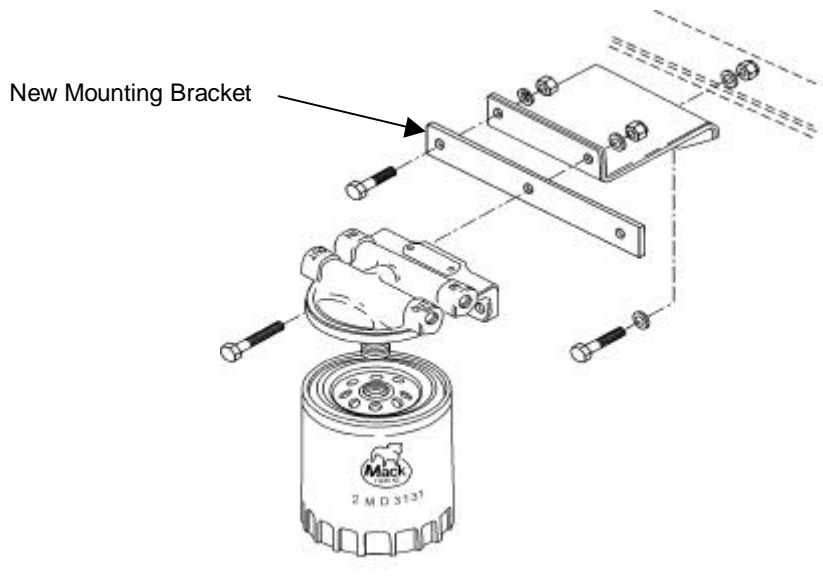

Figure 1 – Airbag Filter Mounting Bracket
- b. Fit new bracket (Table 1, Item 2) to existing bracket with overlap facing rearward and secure with bolt (Table 1, Items 3 to 5) through forward hole. Figure 1 details the location of new bracket.